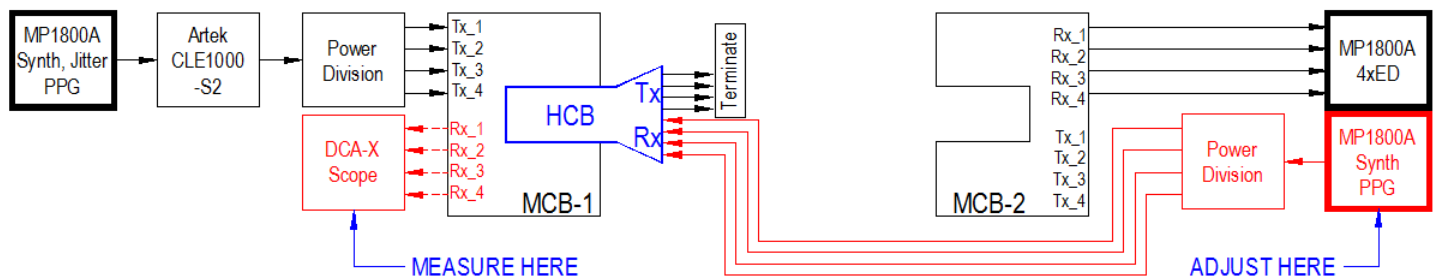

Figure 12. Counter-propagating FEXT aggressor calibration setup
**Goal: Set the amplitude of the counter-propagating FEXT aggressors for the input side of the ATD test system.** This calibration step will set counter-propagating aggressor crosstalk for the victim calibration in later steps. Counter-propagating aggressor signals are applied into the HCB and measured at corresponding points on MCB-1 using the scope. Refer to Figure 12 while executing the following steps.